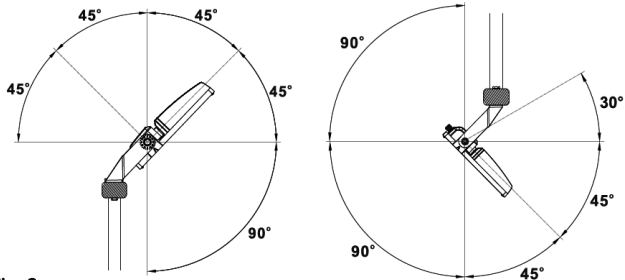

Fig. 2
- The angle of the luminaire can be adjusted, depending on the installation method, using the bolts on the side of the bracket (see Fig. 2)